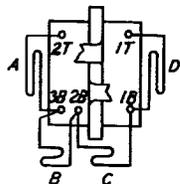

FIG. 64 - TERMINAL ARRANGEMENT AS VIEWED FROM THE REAR (TERMINAL SIDE) 40 TYPE RESISTANCES
4.14 The winding terminals are numbered from right to left facing the terminal side of the resistance as shown in Fig. 64. The terminal numbers are followed by the suffix T (top) or B (bottom) to indicate that the terminal is in the top or bottom row of terminals.